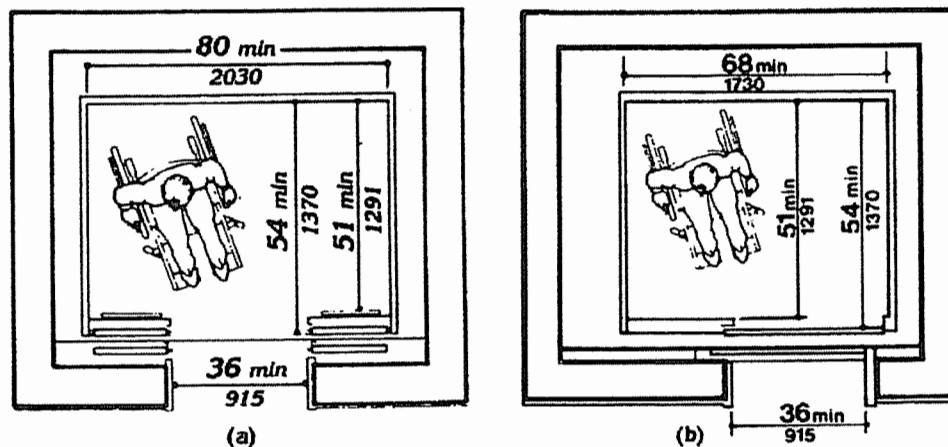

Fig. 22
- e-ii. Does the floor area of the elevator car have space to enter, reach the controls, and exit? [ADA Standards § 4.10.9, Fig. 22] Yes ____ No ____
Note: See Figure 22 for acceptable floor and opening dimensions. Floor dimensions of at least 48 inches by 48 inches may be allowed in existing facilities built before the ADA went into effect.